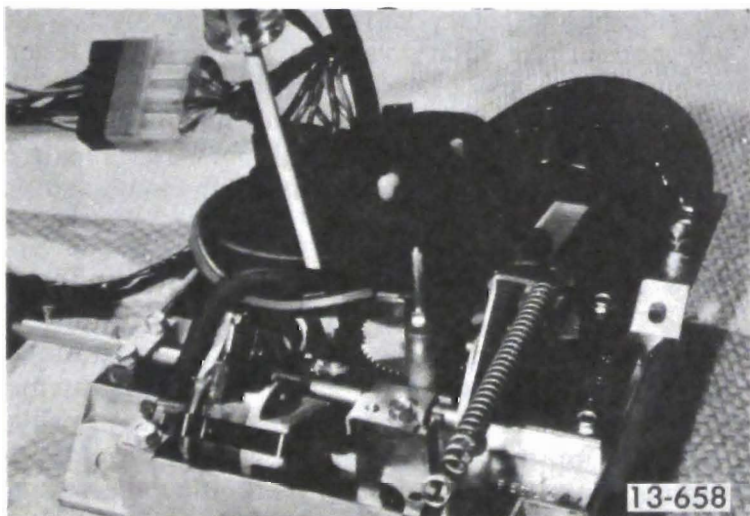

Figure 13-140 Feedback Potentiometer Adjustment
8. Using a blade-type screwdriver, slip the shaft of the feedback potentiometer fully counterclockwise to its stop (see Figure 13-140 for location of the feedback potentiometer in the programmer). The vacuum motor mechanism will be "in" the vacuum motor indicating full heat operation.
b. Using a screwdriver, slip the shaft of the feedback potentiometer, turning the shaft fully counterclockwise (gear does not move). See Figure 13-140. The vacuum motor should now be in the "Full Heat" position. (The vacuum motor mechanism will move into the vacuum motor.)